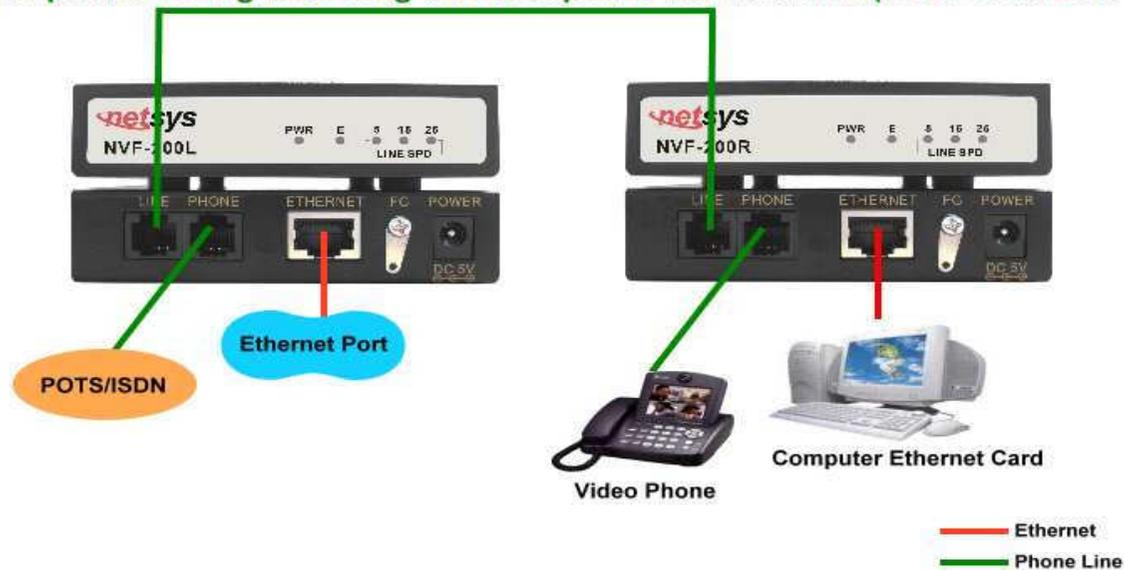

Figure 2.1 VDSL Point-to-Point application
1. The bridge's RJ-11 ports supports max distance 1.9km at 5M/5M or max rate 25M/25M symmetrical and distances up to 800m data service across existing phone wiring, without interfering with standard voice transmissions, easy-to-use which do not require installation of additional wiring. Every RJ-11 modular phone jack in the home can become a port on the LAN. Networking devices can be installed on a single telephone wire that can span within 1.9km or 800m (depends on speed) between the two farthest points. (Figure 2.1)